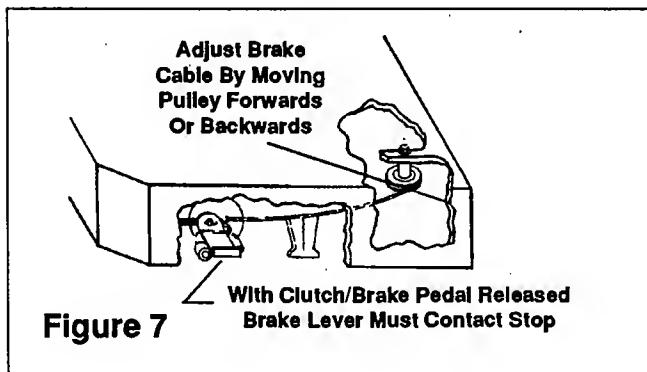
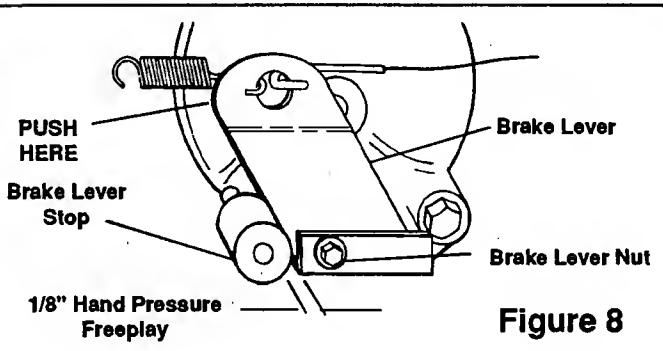

Figure 7
Figure 8
- To adjust the brake, release the clutch/brake pedal (foot pedal is in the up position, with tension on the transaxle belt). Move brake cable pulley (See figure 7) forward or backward in its slot to permit transaxle brake lever to rest against its stop (See figure 8)